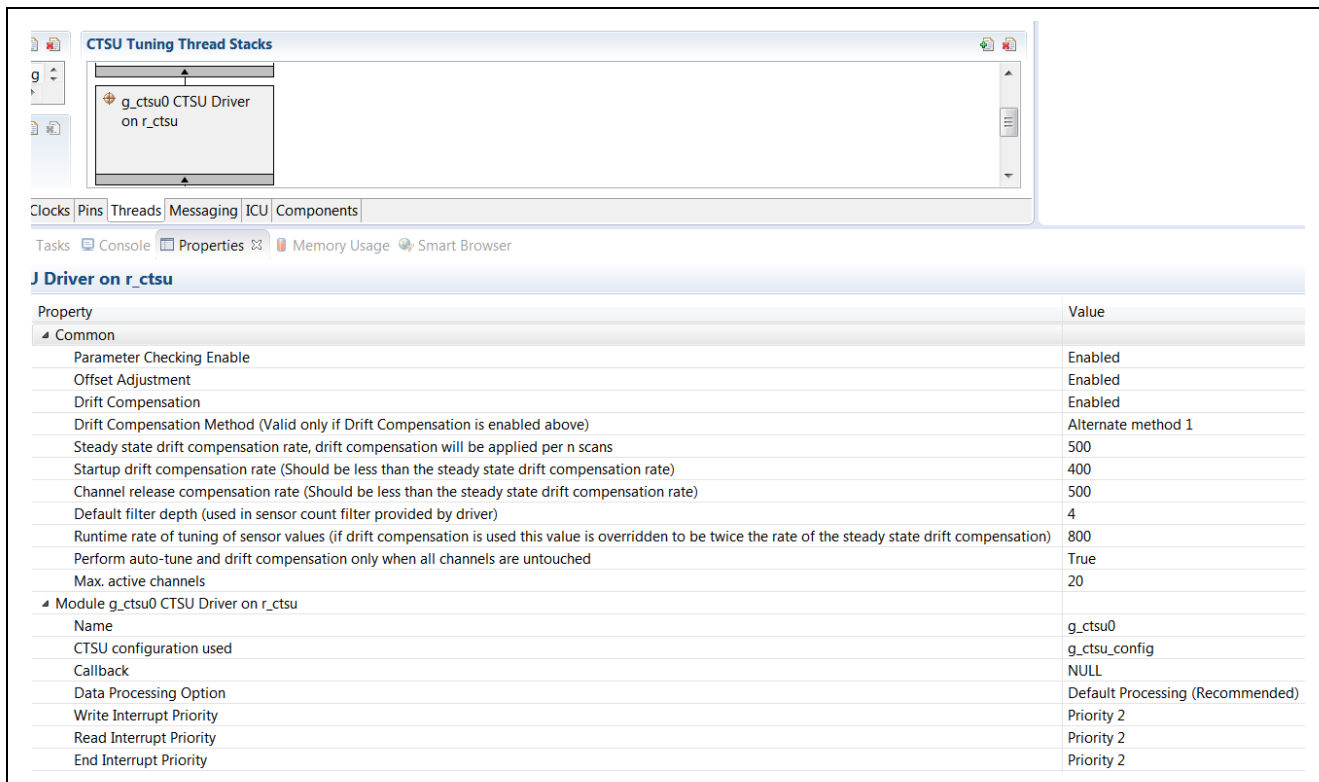

Figure 3. Configuring the CTSU HAL driver
6. On the right, under **CTSU Tuning Thread Stacks**, select **g_ctsu CTSU driver** on **r_ctsu**. Confirm that the CTSU driver has the same configuration as in Figure 3.